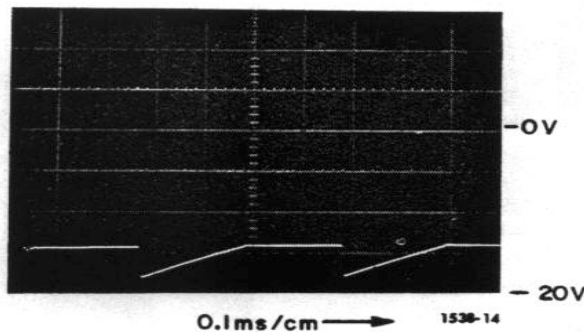

Figure 4-5. Voltage waveform at A.T.65 (24,000 RPM).
- (d) If the CAL lamp is operating properly, turn off the POWER switch and carefully remove the strobotron from its socket (heed the warning of paragraph 4.3.5). Set the RPM range switch to the 110-690 range. Measure the voltage between pins #4 and #9 of the socket; it should be at least 700 volts, dc. Improper voltage indicates a defective diode CR507 or faulty wiring. Also check diode CR503 and transistor Q510 (as in step c, 2, (b) and (c), above). (e) With the correct waveform or voltage in step (c), above, measure the voltages at A.T.9 and A.T.30. Follow the instructions in steps c, 2, (c) and (d). (f) With the correct voltages at A.T.9 and A.T.30, observe the waveform at A.T.65 (see Figure 4-5). If it is incorrect, the trouble is in the 200 μsec monostable circuit.
f. Compare the waveforms at A.T.65 and A.T.63 with those given in Figures 4-5 and 4-8, respectively. Improper waveforms indicate trouble in the flip-flop circuit (Q107 and Q108).